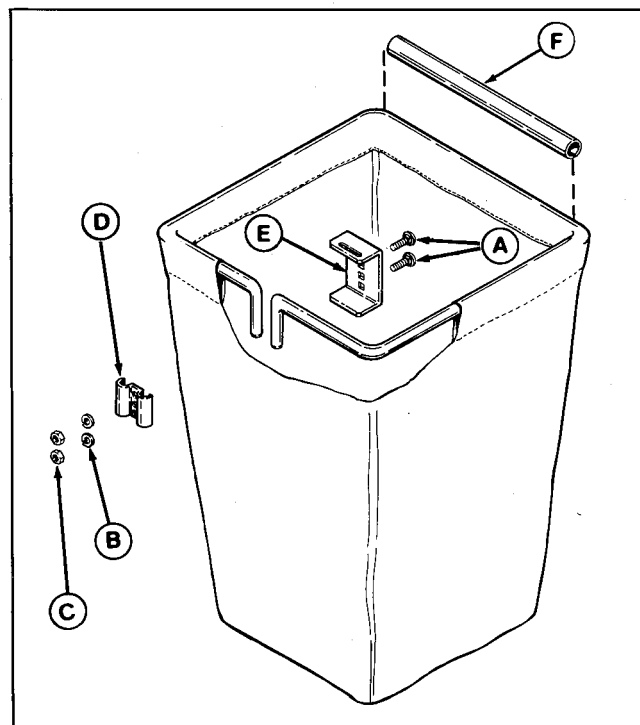

Figure 32.
10. Connect the brackets (D & E, figure 32) to the bag frames with slot toward top. Use two carriage bolts (A), lockwashers and nuts for each bag. Use top and bottom holes in brackets (D & E); the middle hole will be empty. The cloth is shown cut away for clarity only - be sure the brackets are outside of the bag.
11. Install the tubes (F, figure 32) onto the bags as shown.